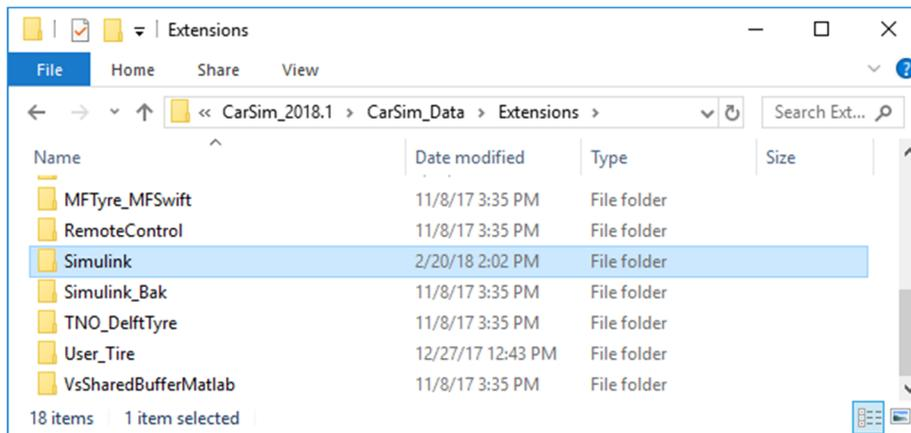

Figure 7. Windows view `Extensions` folder contents, including the folder named `Simulink`.
3. Notice that one of the folders is named `Extensions` (1). Double-click on that folder name to view the contents (Figure 7).